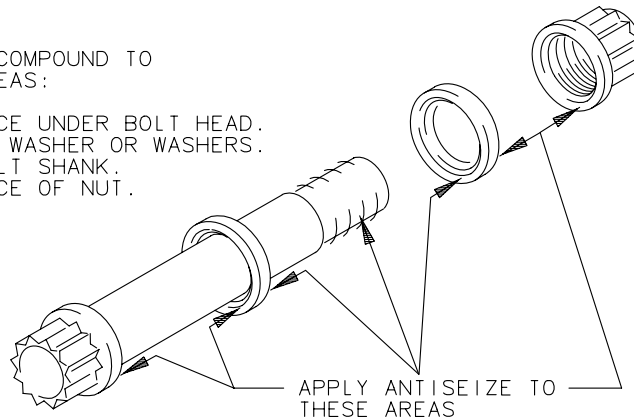

Figure 1 Apply Anti-Seize Compound
- a. Refer to Figure 1 and lubricate the hardware with anti-seize compound per AMS2518.